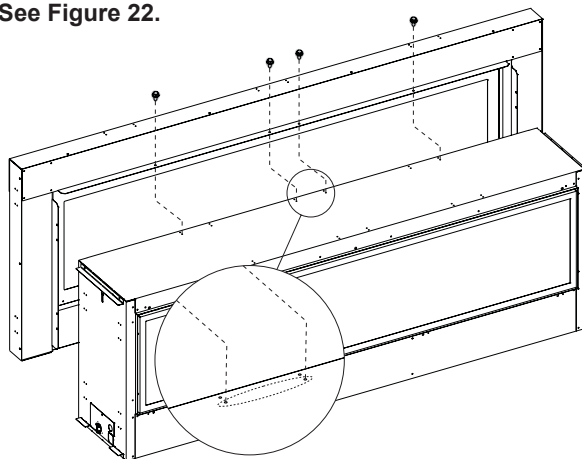

Figure 22
- 3d. Secure the outer glass and frame to the top of the fireplace. See **Figure 22**.